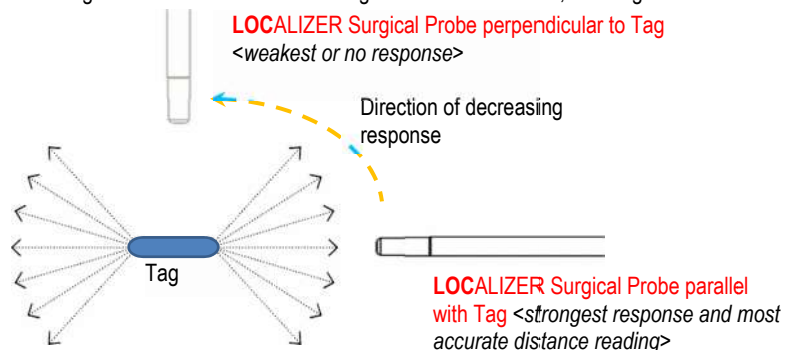

Figure 4. Assessing Tag location/ position with Surgical Probe using signal strength (not to scale)
**As measured from end of the Surgical probe to end of Tag (Figure 4)